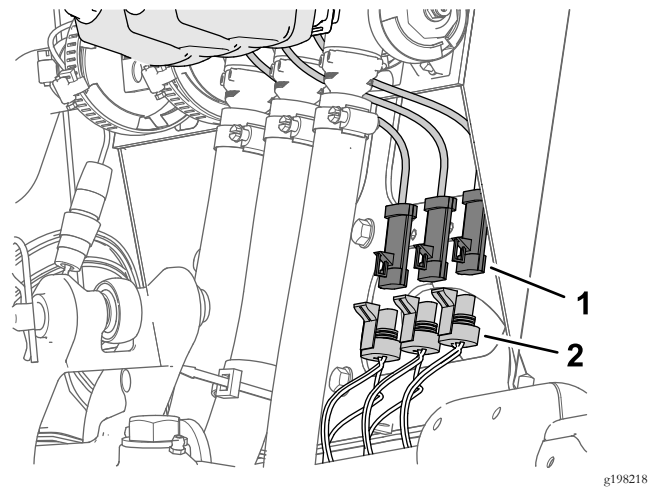

Figure 29
1. Disconnect the 3-socket connector labeled LEFT SPRAY VALVE, CENTER SPRAY VALVE, and RIGHT SPRAY VALVE of the machine wire harness from the 3-pin connectors of the 3 spray-valve actuators (Figure 29).